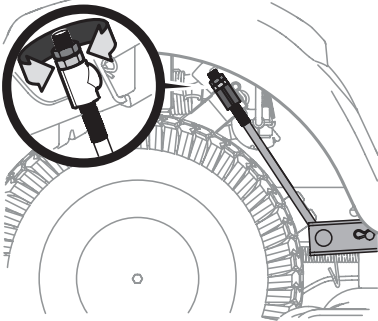

Figure 36
3. Under the rear fenders inside the wheels there is a lift adjustment rod for each side of the deck (Figure 36).